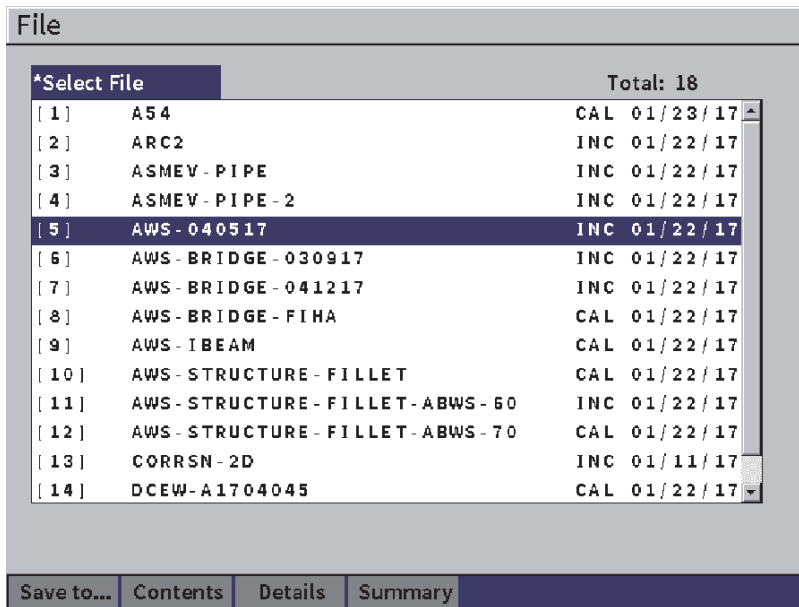

Figure 9-4 File setup page
1. On the **Settings** menu, select the File icon to open the **File** setup page (see Figure 9-4 on page 128).
1. With the selected file highlighted, press the Enter key, and then press the Tab key to highlight the **Save to...** button (see Figure 9-4 on page 128).